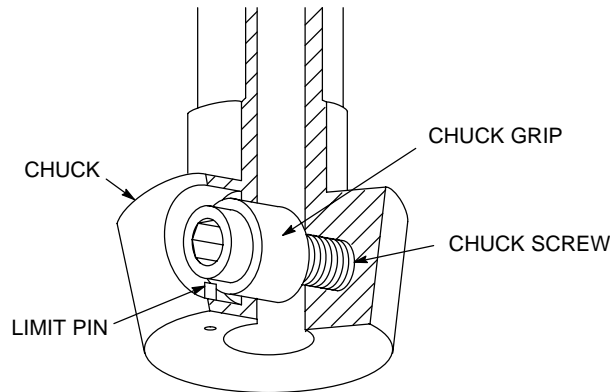

FIGURE 3 – CHUCK DETAILS
- 4.2 To install the mixer shaft, back off the chuck screw (refer to Figure 3) as far as the limit pin will allow. **DO NOT FORCE.** Insert the mixer shaft into the chuck bore as far as it will go, and draw up the chuck screw with the wrench provided, rotating the shaft slightly back and forth to make sure the chuck grip seats against the flat of the shaft. Tighten the chuck screw with the wrench provided. The wrench has been properly sized to tighten the screw. **DO NOT IMPACT THE WRENCH OR USE AN EXTENSION.**